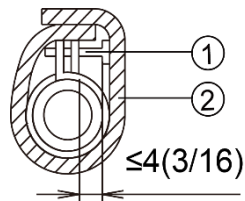

Fig 4.3.3
- (3) Use sealing plate to make the pipe clamp and hose insulated, as shown in Fig.4.3.3.
- ① metal clamp(accessory)
- ② thermal sponge(accessory)